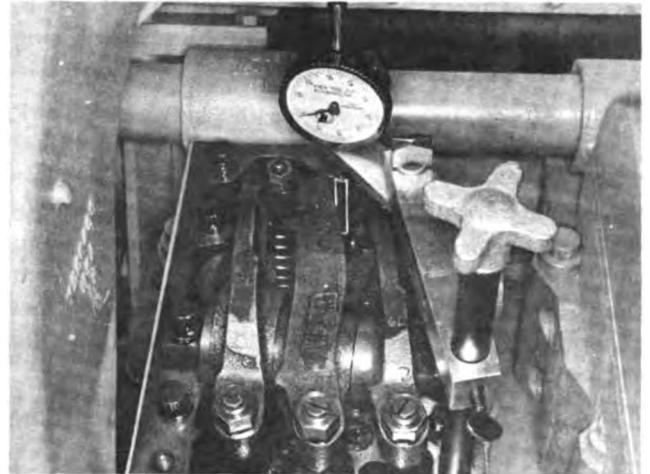

Fig. 2-62, (K21920). Dial indicator in place — extension in contact with plunger
2. Set up 3375007 Indicator Support on the rocker lever housing, of the cylinder selected, with the indicator extension 3375005 on the injector plunger top. Fig. 2-62.